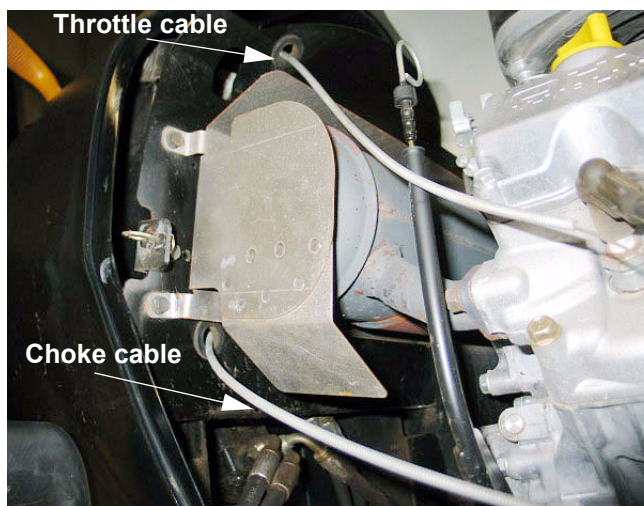

Figure 1.24
- 1.24. The choke cable then passes through the grommated hole at the lower right corner of the lower heat shield. See Figure 1.24.